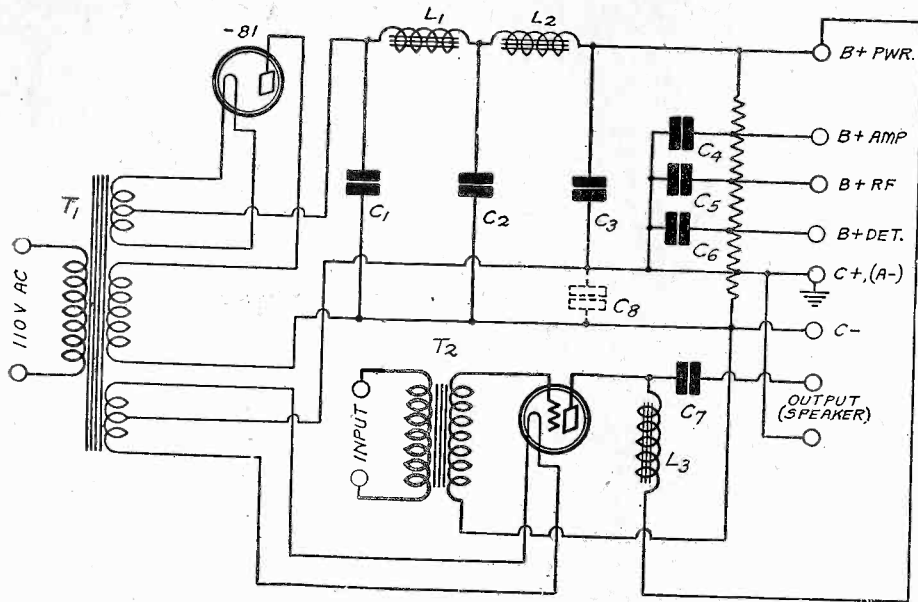

FIG. 753
(1)—See Fig. 753 for such a drawing.